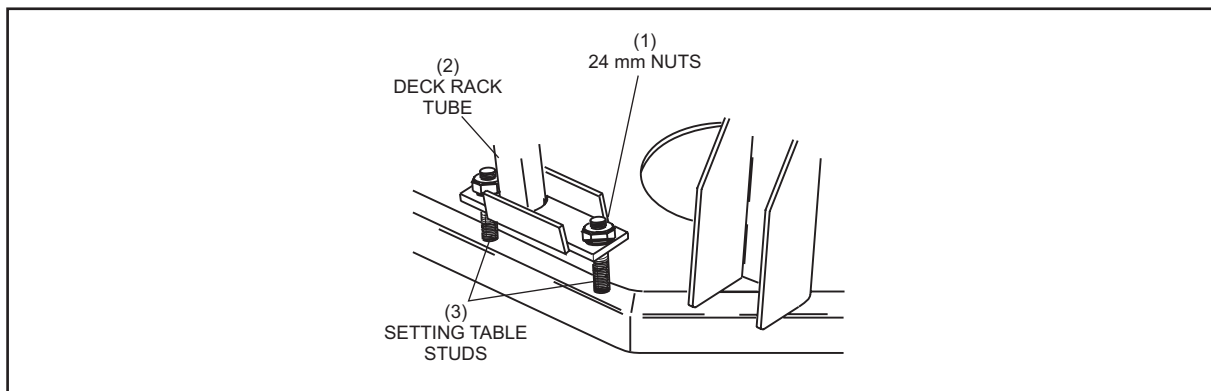

Figure 8-3. Removing Table from Deck Rack Tubes
7. Remove the four upper 24 mm nuts that secure the table to the deck rack tubes. Refer to *Figure 8-3*.